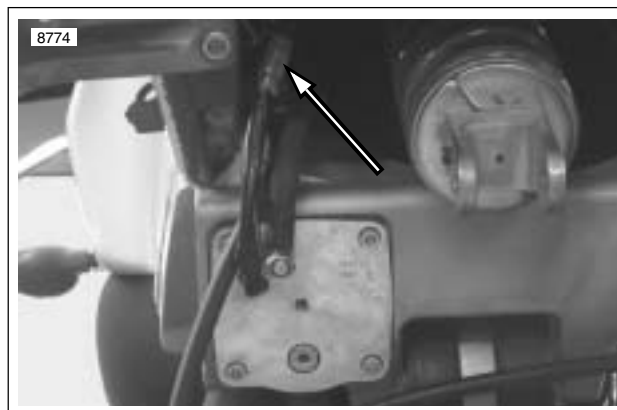

Figure 4-25. Fuel Pump Connector [86] (swingarm removed for illustration)
- a. See Figure 4-25. Disconnect the 4-place fuel pump connector [86]. The connector is located inside the left rear portion of the fuel tank/frame.
7. See Figure 4-25. Attach fuel pump connector [86] to main wiring harness.